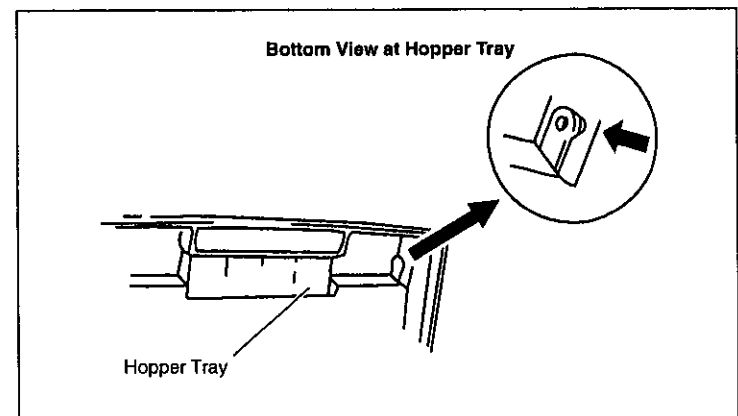

Fig. 8-12
- 2) Push the Hopper Tray, as shown in the Fig. 8-12.